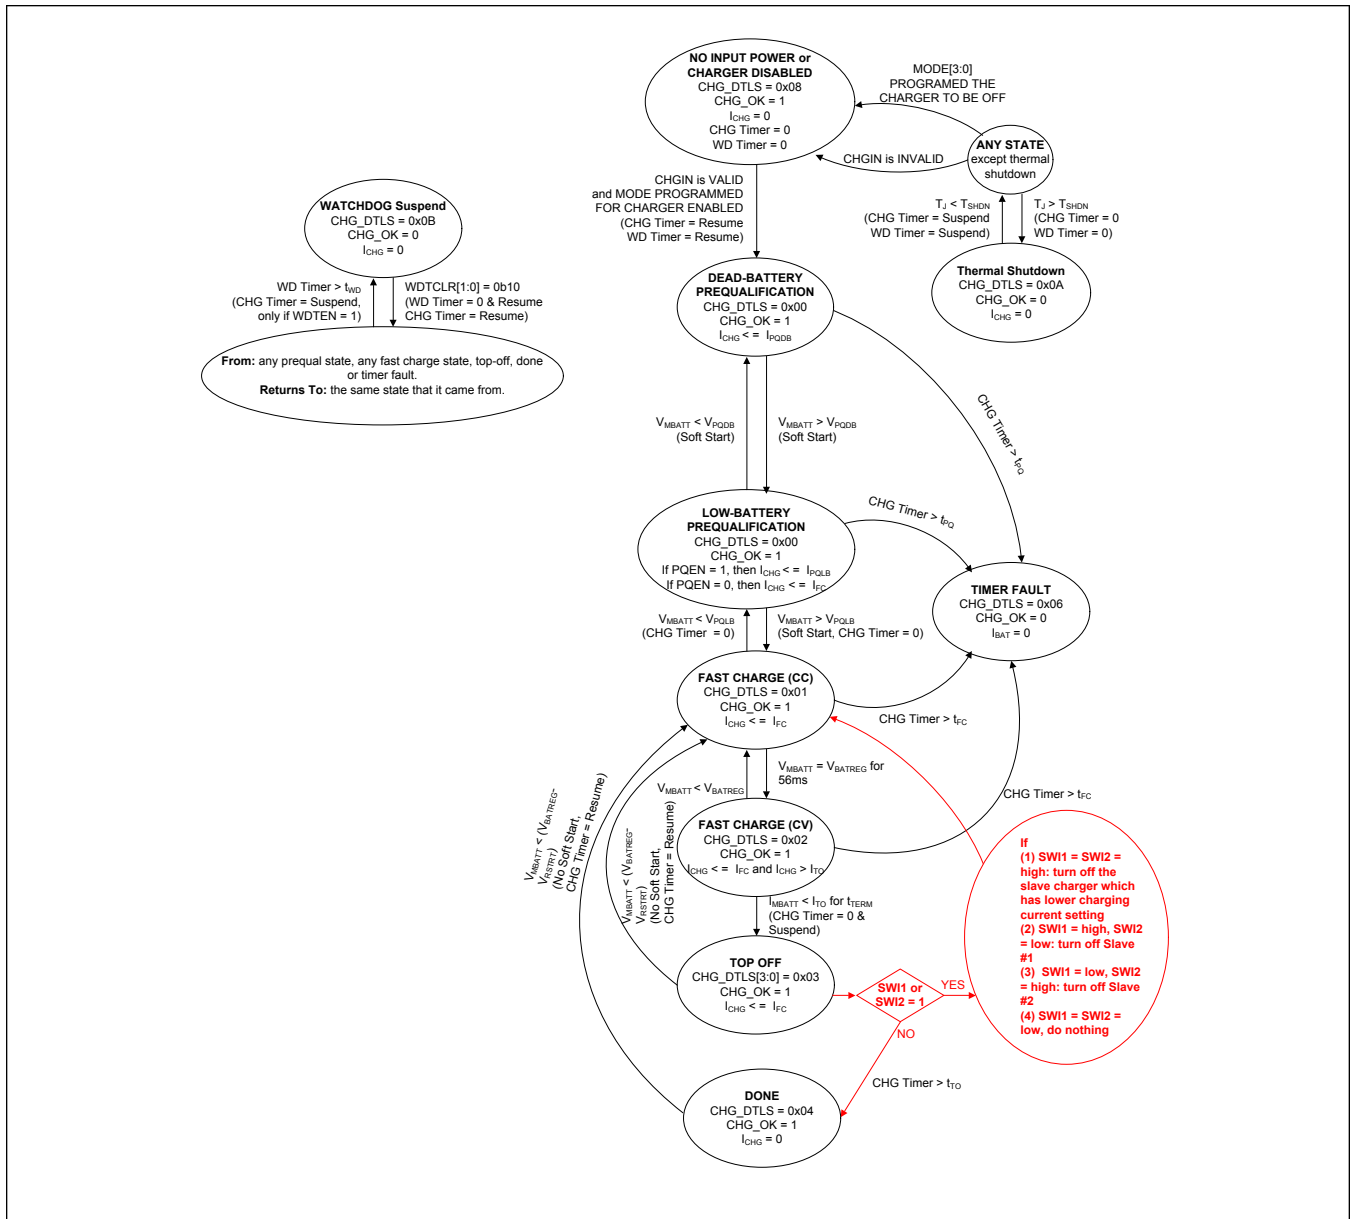
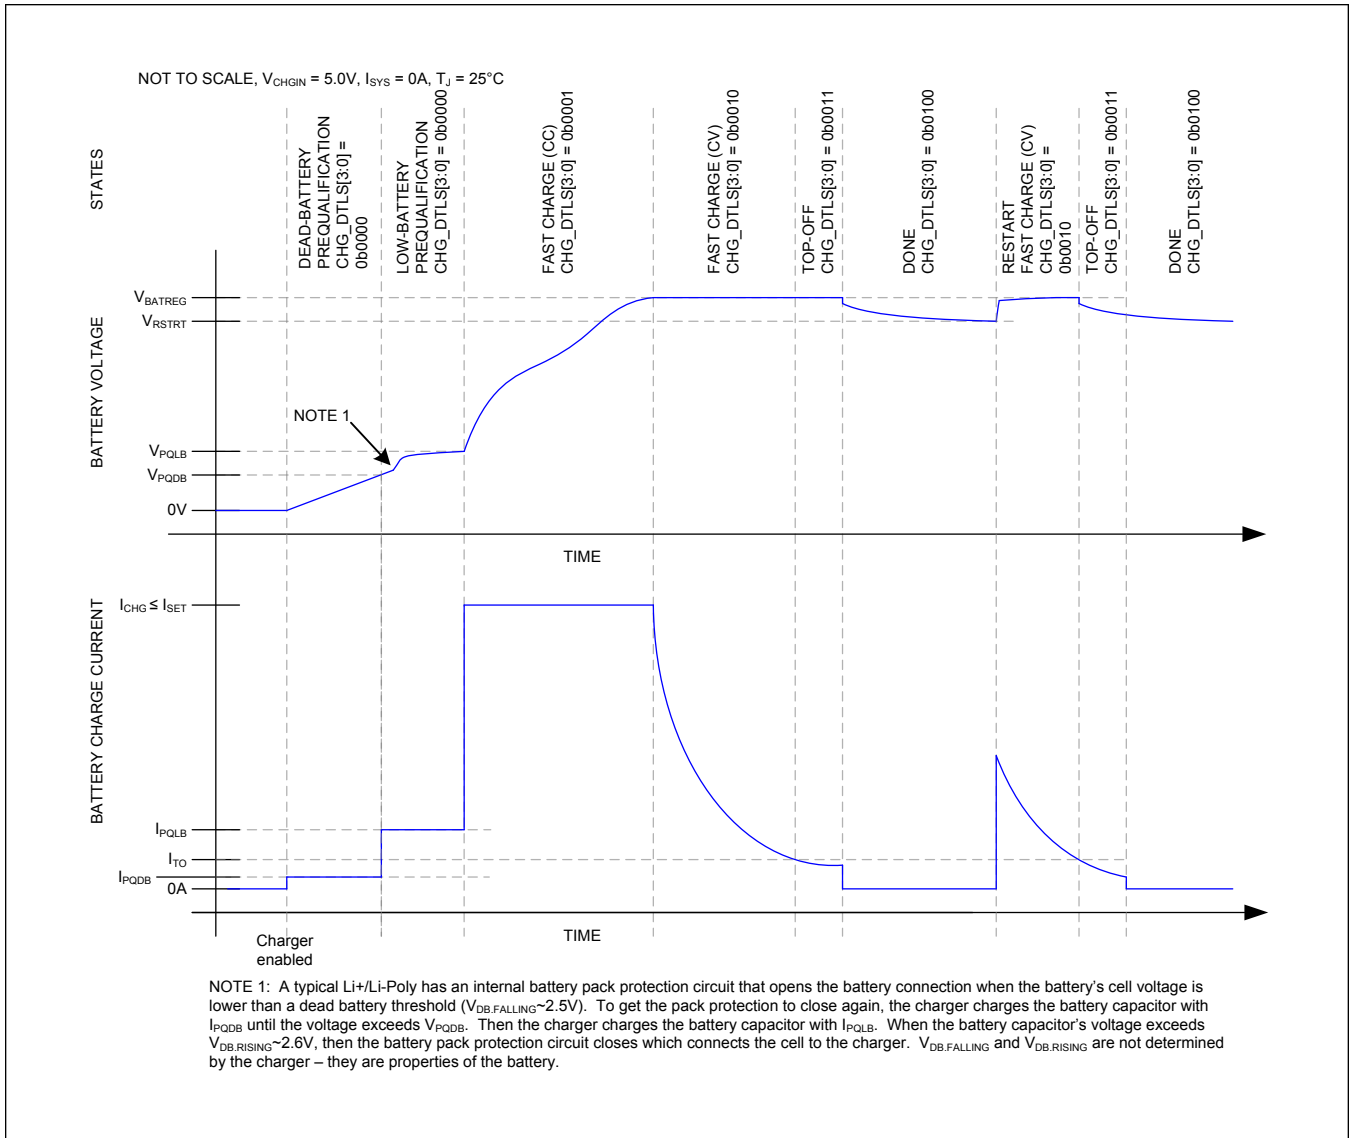
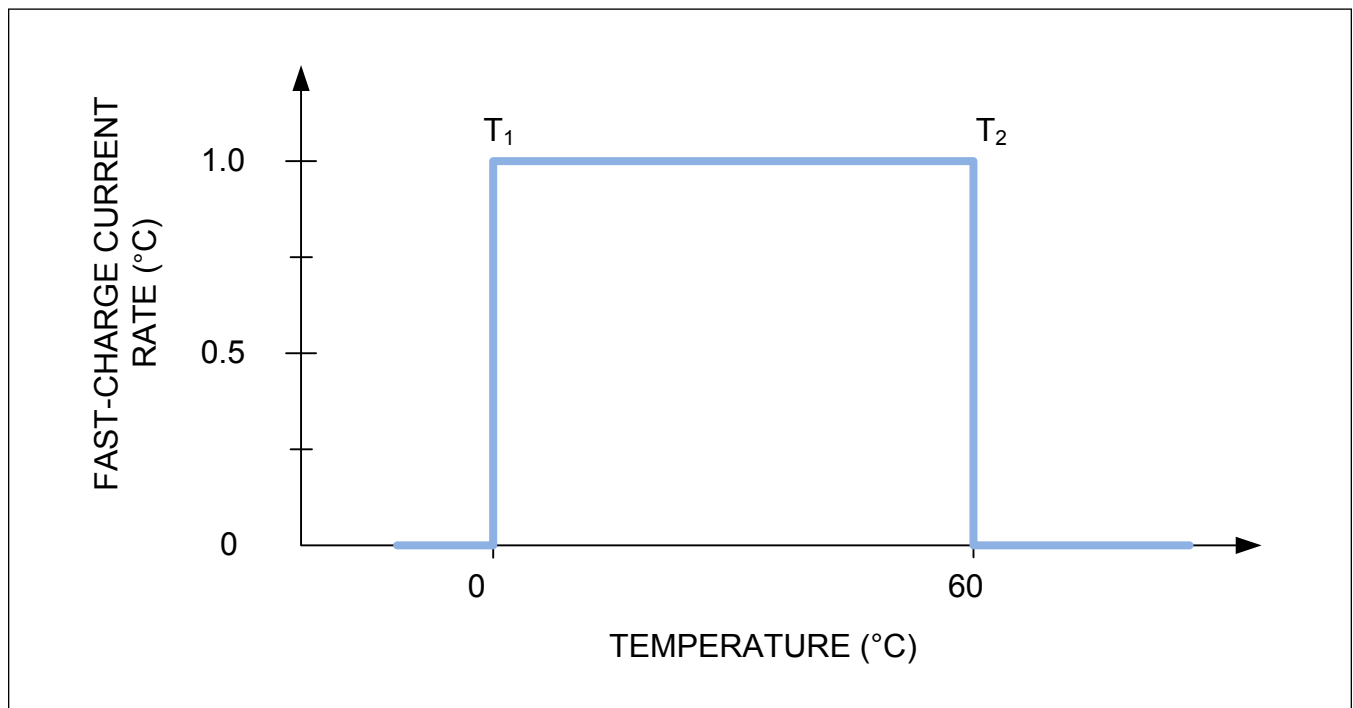

Figure 3. Charger State Diagram
Figure 4. Li+/Li-Poly Charge Profile
Figure 10. Thermal Shutdown Regions
DETBATB is tied to the ID pin of the battery pack. If DETBATB is pulled below 80% of V_{IO} pin voltage, this is an indication that the main battery is present and the battery charger starts upon valid CHGIN. If DETBATB is left unconnected or equal to V_{IO} voltage, this indicates that the battery is not present and the charger does not start upon valid CHGIN, see Figure 4. DETBATB is internally pulled to BATT through an external resistor. The DETBATB status bit is valid when BATT is not present.
The IC utilizes several charging states to safely and quickly charge batteries as shown in Figure 3. An exaggerated view of a Li+/Li-Poly battery is shown in Figure 4 when there is no system load and the die and battery are close to room temperature as it progresses through the following charge states:
As shown in Figure 3, the dead-battery prequalification state occurs when the main-battery voltage is less than V_{PQDB} . After being in this state for t_{SCIDG} , a CHG_I interrupt is generated, CHG_OK is set, and CHG_DTLS is set to 0x00. In the dead-battery prequalification state, charge current into the battery is I_{PQDB} .
As shown in Figure 3, the fast-charge constant current (CC) state occurs when the main-battery voltage is greater than the low-battery prequalification threshold and less than the battery regulation threshold ($V_{PQLB} < V_{BATT} < V_{BATREG}$). After being in the fast-charge CC state for t_{SCIDG} , a CHG_I interrupt is generated, CHG_OK is set, and CHG_DTLS = 0x01.
As shown in Figure 3, the topoff state can only be entered from the fast-charge CV state when the charger current decreases below I_{TO} for t_{TERM} . After being in the topoff state for t_{SCIDG} , a CHG_I interrupt is generated, CHG_OK is set, and CHG_DTLS = 0x03. In the topoff state, the battery charger tries to maintain V_{BATREG} across the battery and typically the charge current is less than or equal to I_{TO} .
As shown in Figure 3, the battery charger enters its done state after the charger has been in the toff state for t_{TO} . After being in this state for t_{SCIDG} , a CHG_I interrupt is generated, CHG_OK is cleared, and CHG_DTLS = 0x04.
The battery charger provides both a charge timer and a watchdog timer to ensure safe charging. As shown in Figure 3, the charge timer prevents the battery from charging indefinitely. The time that the charger is allowed to remain in each of its prequalification states is t_{PQ} . The time that the charger is allowed to remain in the fast-charge CC and CV states is t_{FC} , which is programmable with FCHGTIME. Finally, the time that the charger is in the toff state is t_{TO} , which is programmable with TO_TIME. Upon entering the timer fault state, a CHG_I interrupt is generated without a delay, CHG_OK is cleared, and CHG_DTLS = 0x06.
In the timer fault state, the charger is off. The charger can exit the timer fault state by programming the charger to be off and then programming it to be on again through the MODE bits. Alternatively, the charger input can be removed and reinserted to exit the timer fault state (see the "ANY STATE" bubble in the upper right of Figure 3).
The battery charger provides both a charge timer and a watchdog timer to ensure safe charging. As shown in Figure 3, the watchdog timer protects the battery from charging indefinitely in the event that the host hangs or otherwise cannot communicate correctly. The watchdog timer is disabled by default with `WDTEN = 0`. To use the watchdog timer feature, enable the feature by setting `WDTEN`. While enabled, the system controller must reset the watchdog timer within the timer period (t_{WD}) for the charger to operate normally. Reset the watchdog timer by programming `WDTCLR = 0x01`.
In the IC, the thermistor is monitored to turn off the charger during battery temperature fault events. The battery regulation voltage and current limits are not adjusted. As shown in Figure 3, the thermal shutdown state occurs when the battery charger is in any state and the junction temperature (T_J) is higher than the device's thermal shutdown threshold (T_{SHDN}) or below 0°C . When T_J is close to T_{SHDN} , the charger folds back the input current limit to 0A so the charger and inputs are effectively off as shown in Figure 10. Upon entering this state, CHG_I interrupt is generated without a delay, CHG_OK is cleared, and CHG_DTLS = $0x0A$.